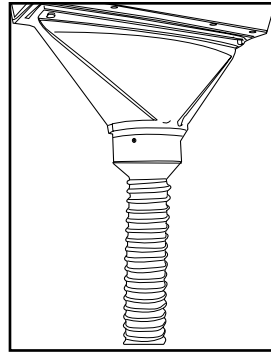

Fig 15 Connect the exhaust hose to the sliding crab with the hose clamp provided.
- Cut exhaust hose to required length and attach to the sliding crab nozzle with a clamp. See Fig. 15.